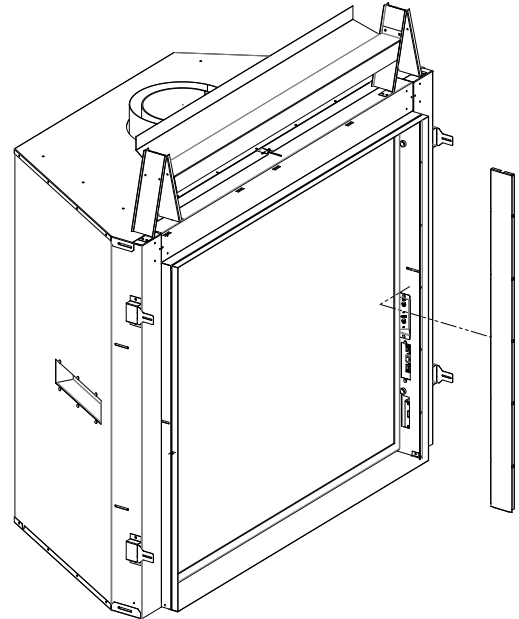

Figure 17: Side Panel Removal
3. A side cover can be found on the inner right side of the unit. It is held in place using two magnets. Gently pull the side panel out and away from the unit (see Figure 17).
- Pressure taps for the inlet (IN) and the manifold (OUT)